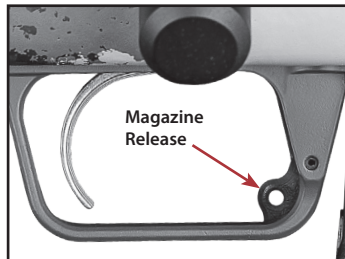

Figure 23-1
2. While pointing the muzzle in a safe direction, remove the magazine by pushing the magazine release lever forward and pulling the magazine out (Figure 23-1).